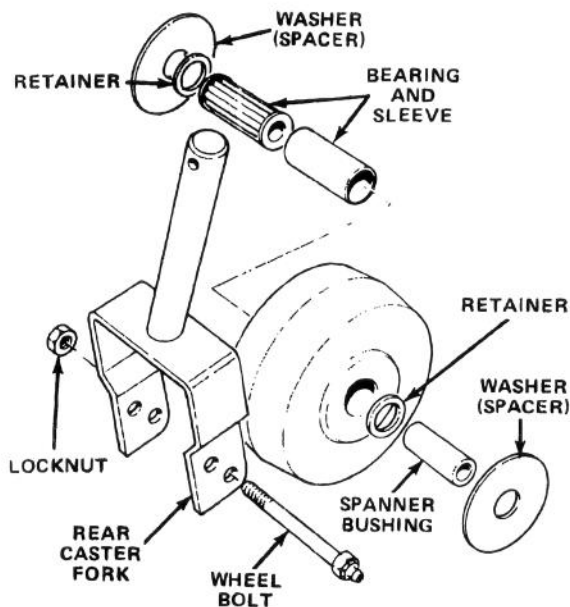

Figure 27
1. Remove rear wheel bolt, and locknut holding caster wheel between caster fork (Fig. 27).
2. Pull spanner bushing out of wheel hub (Fig. 27).
3. Remove retainer from wheel hub and allow bearing and bearing sleeve to fall out (Fig. 27). Remove retainer from opposite side of wheel hub.
Note: Install extra spacer if more than .080 end play occurs (Fig. 27).